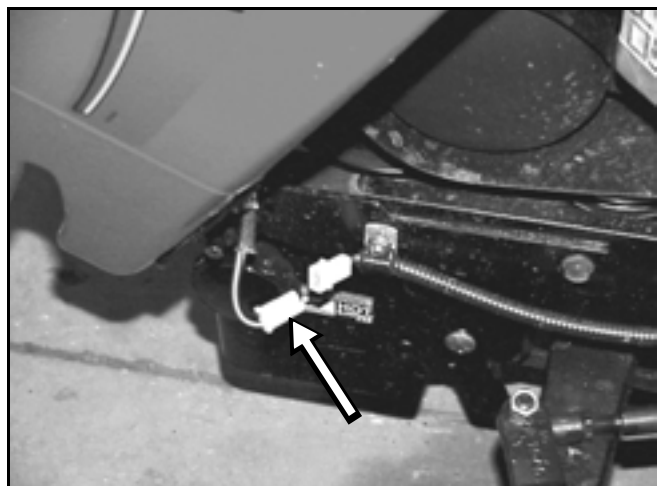

Figure 46
1. Disconnect the headlight wiring harness at the plug and jack connection (Figure 46).